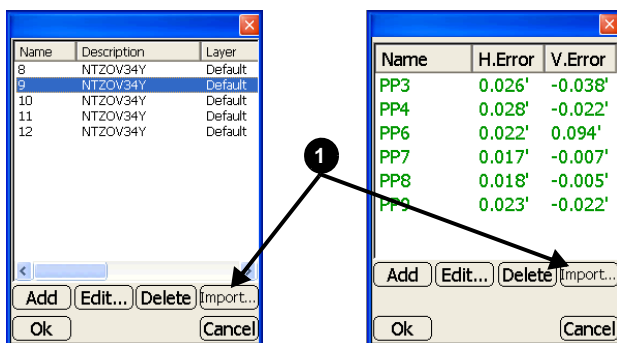

Figure 3-19. Navigate to Point/Control Point Listing
1. Navigate to the point or control point listing dialog box and tap **Import** (Figure 3-19).